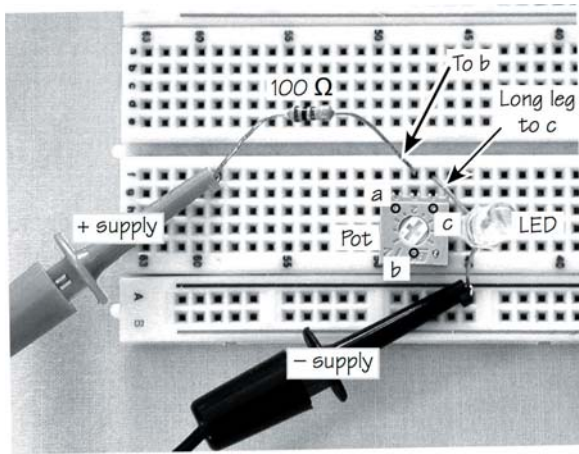

Fig. 3–Board layout
- Look at Fig. 3 for a photo of how the circuit is laid out on the board.
- If you have the circuit built correctly, the LED should light brightly when you turn the screw of the pot fully clockwise. If it doesn't, recheck your work and match up what you have with Fig. 3.